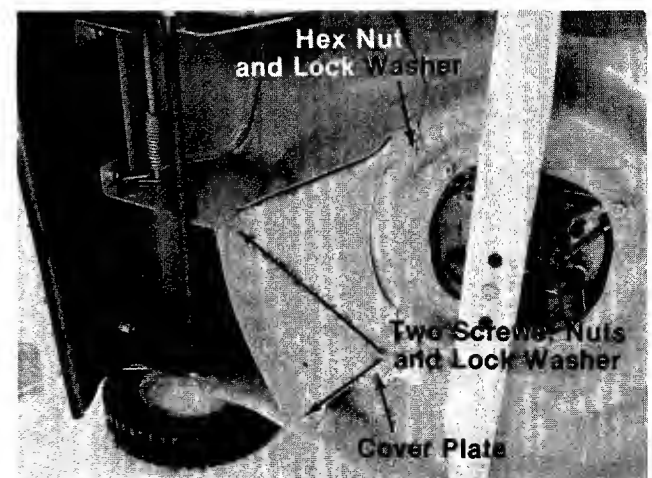

FIGURE 27.
7. Remove two screws, nuts and lock washers. Remove one hex nut and lock washer from cover plate. See figure 27.